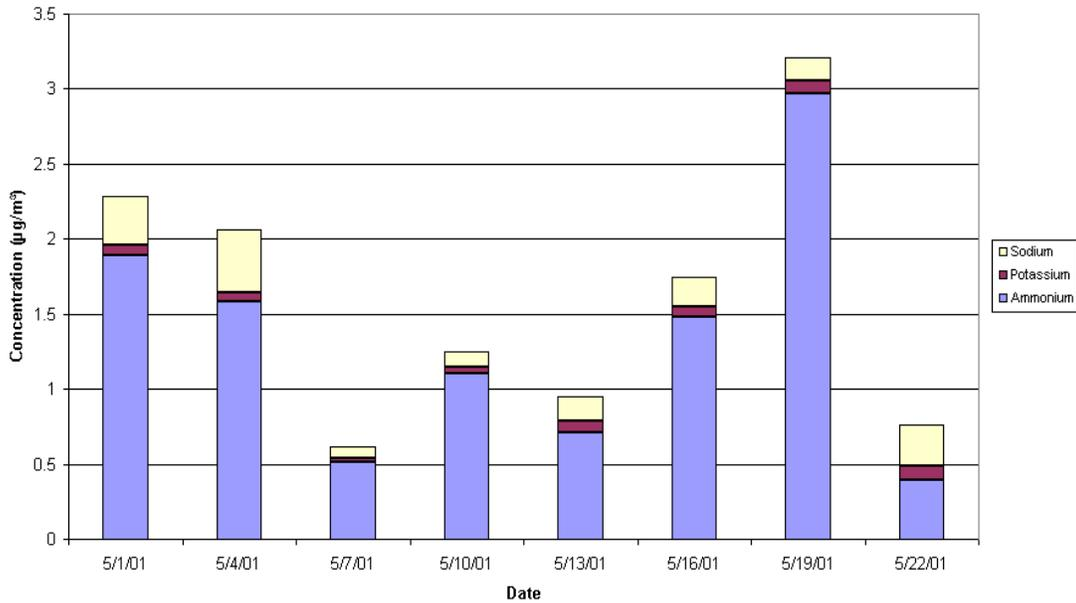

Figure 5-5. Stacked column plot generated by the time-series analysis.
- Stacked Column Plot (Figure 5-5). Data is plotted in columns, with each new series stacked on top of the previous. This shows the relationship of individual items to the whole.
Figure 5-5 displays a stacked column plot.